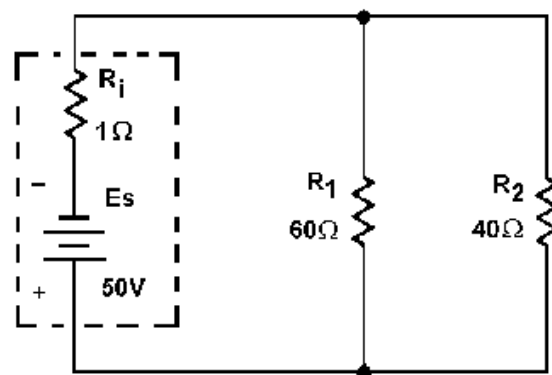

Figure 3-60.—Source resistance in a parallel circuit.
*Q44. What is the total resistance of the circuit shown in figure 3-60?*
*Q45. What effect does the internal resistance have on the rest of the circuit shown in figure 3-60?*